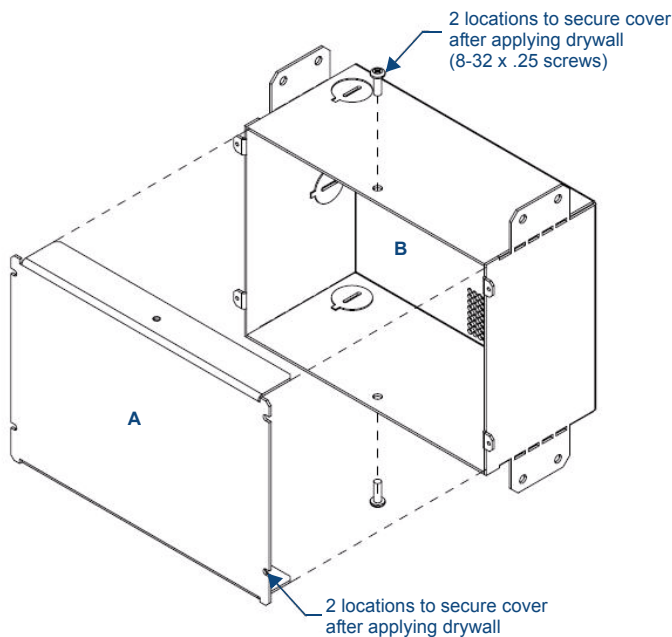

FIG. 1 CB-TP7 Rough-In Box with cover
1. Remove the rough-in box cover (A in FIG. 1) before installation of the Rough-In Box (B). **Note:** the cover **MUST** be removed before drywall installation. The cover may be reinstalled after drywall installation using 4-40 screws (not included).